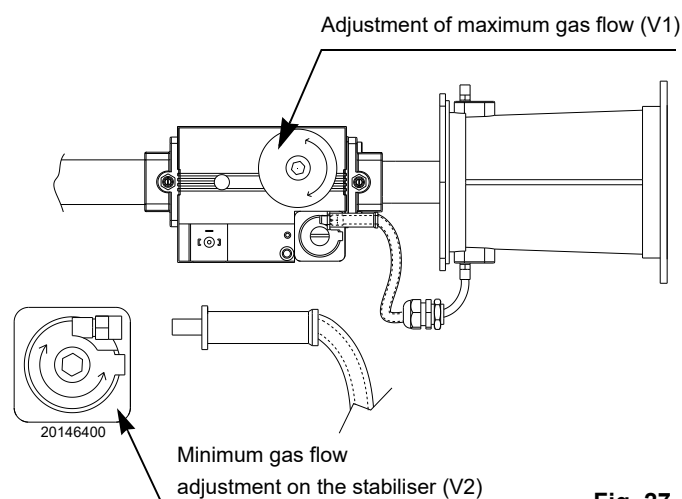

Fig. 27
- to increase the gas delivery and the CO₂: turn the V1 screw towards the “+” sign (Fig. 27);
- to reduce the gas delivery and the CO₂: turn the V1 screw towards the “-” sign (Fig. 27).
- to increase the gas delivery and the CO₂: turn the V2 screw towards the “+” sign (Fig. 27);
- to reduce the gas delivery and the CO₂: turn the V2 screw towards the “-” sign (Fig. 27).